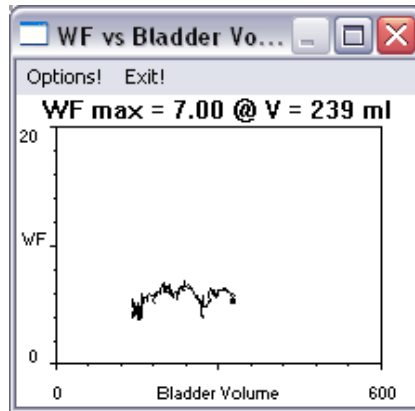

Figure 52: WF Plot
1. Click **Info > X-Y plot > WF**. The WF plot is displayed and the complete test is plotted on the screen (Figure 52).